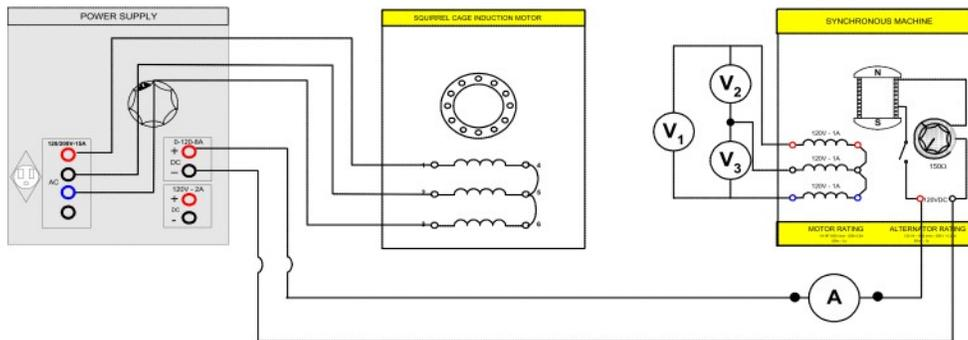

FIGURE 10.2
Step 1: Using your EMS Synchronous Motor/Generator, Squirrel Cage Motor, Power Supply and Data Acquisition Interface (DAI) modules in the EMS workstation, connect the circuit shown in Figure 10.2. The squirrel cage motor will be used to drive the synchronous motor/generator as an alternator. Its speed will be assumed constant during this Laboratory Experiment. Note that the squirrel cage motor is connected to the fixed 208 V 3/ outputs of the power supply, terminals 1, 2 and 3. The rotor of the alternator is connected to the variable 0-120Vdc outputs of the power supply, terminals 7, N.